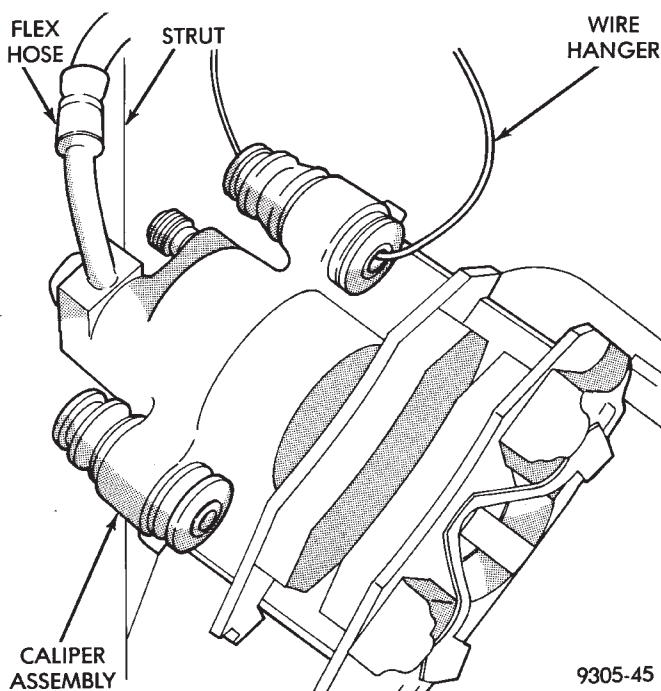
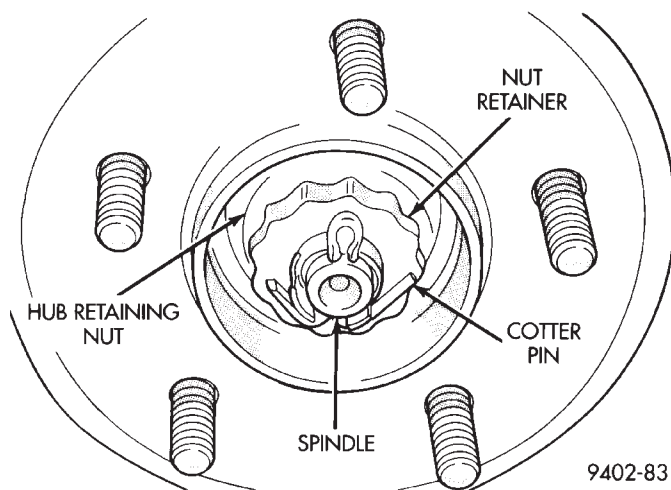

**Fig. 12 Storing Caliper**
**Fig. 13 Hub And Bearing Retaining Nut and Washer**
(1) Raise vehicle on jackstands or centered on a frame contact type hoist. See Hoisting in the Lubrication and Maintenance section of this manual, for the required lifting procedure to be used for this vehicle.
(2) Remove the rear wheel and tire assembly from the vehicle.
(3) Remove the rear caliper assembly from the adapter. Refer to Rear Disc Brakes in Group 5 Brakes of this Service manual for required caliper removal procedure. After removing caliper assembly store caliper by hanging it from frame of vehicle (Fig. 12). Do not let weight of rear caliper assembly hang from flexible brake hose. If vehicle is equipped with rear drum brakes, remove the brake flex hose bracket from the support plate and wheel cylinder.
(4) Remove rear braking disc from hub.
(5) Remove rear hub and bearing assembly cotter pin and nut retainer (Fig. 13). Remove the hub and bearing retaining nut and washer from the spindle (Fig. 13). Then remove hub and bearing assembly from spindle.
(6) Install the rear hub and bearing assembly on the rear spindle. Install hub and bearing assembly retaining washer and nut on spindle (Fig. 13). Tighten the hub and bearing retaining nut to a torque of 168 N·m (124 ft. lbs.).
(7) Install the rear brake disc on the hub.
(8) Carefully place rear brake caliper over rotor and install on adapter. Tighten the caliper assembly to adapter mounting bolts to a torque of 22 N·m (192